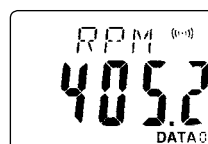

fig.3
4.3.5. **TO TAKE A READING.** Hold the unit about 6" (15cm) from the rotating object. Press and hold the MEAS button and direct the red spot of the laser beam onto the rotating object in the area where the self adhesive tape was applied. After about 4 seconds the scanning symbol will be shown at the top of the display (See fig.3) and a reading will appear in accordance with the units of measurement previously selected. To store the value(s) press the MEM button once whilst the MEAS button is still held down. For more information refer to 4.5 DATA STORAGE and 4.6 DATA RECALL.
4.4.4. **TO TAKE A READING.** Press and hold down the MEAS button and bring the rubber part of the driver gently into contact with the moving object. After about 4 seconds the scanning symbol will be shown at the top of the display (See fig.3) and a reading will appear in accordance with the units of measurement previously selected. To store the value(s) press the MEM button once whilst the MEAS button is still held down.